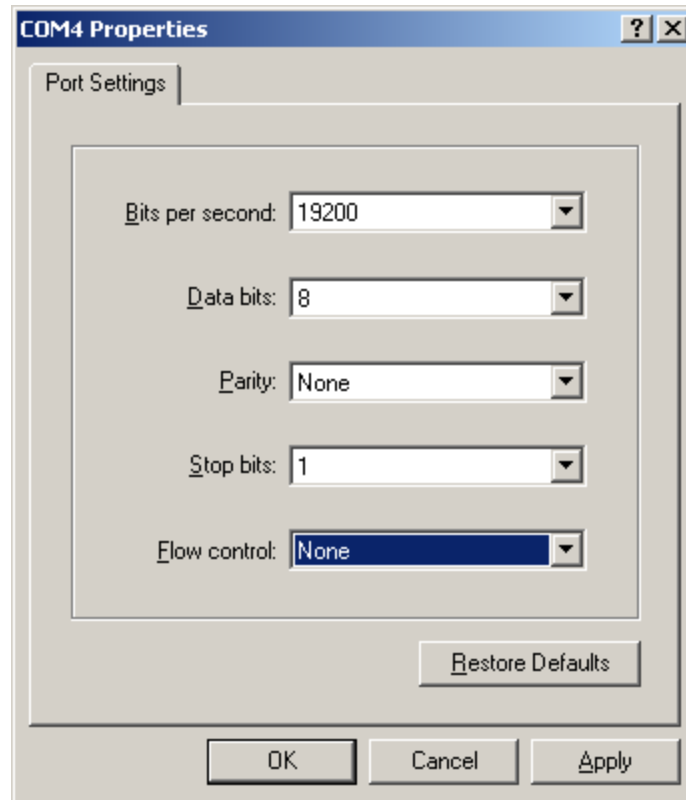

Figure 7-8 • HyperTerminal Port Settings
3. The COM4 Properties window is displayed. Select the following settings (Figure 7-8):